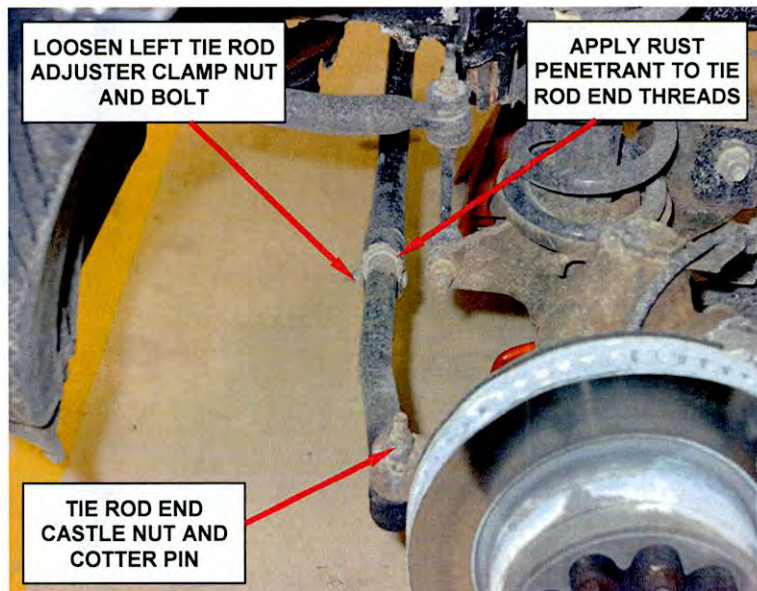

Figure 1 – Steering Components
3. Loosen the left tie rod adjuster clamp nut and bolt (Figure 1).
4. Apply Mopar Rust Penetrant (P/N 04318039AC) or equivalent to the tie rod end threads (Figure 1).
5. Remove and discard the tie rod end castle nut and cotter pin (Figure 1).